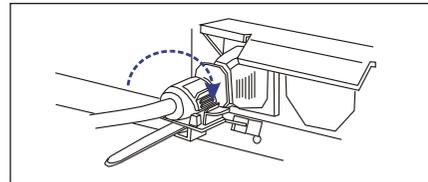

Figure 8: Power Cord Locked into Position
- Step 4.** Secure the power cord with the cable clamp. Flip open the cable clamp and wrap it around the power plug. If necessary, use the release tab to adjust the location of the clamp so it aligns with the base of the power cord as shown below. Press the clip lock on the side of the clamp until it snaps into position. Now the power cord connection is secured. (See **Figure 8**.)